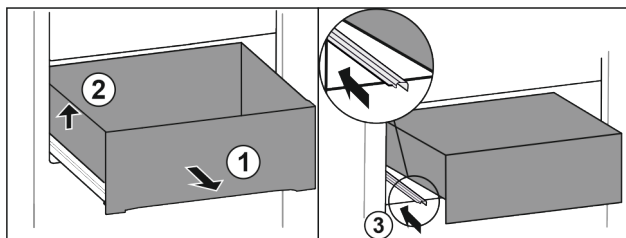

Fig. 85
- Pull out drawer as far as it will go. Fig. 85 (1)
- Lift drawer on the left. Fig. 85 (2)
- Slide in left rail. Fig. 85 (3)